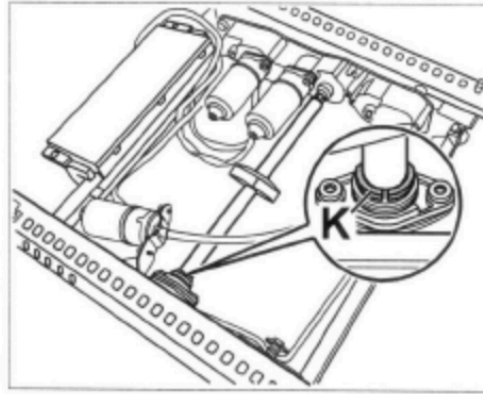

Figure 8
- 9 Check to see whether the **plastic bushing** (⇒ *Figure 8-inset, item K-*) turns along with the shaft when the seat rail is moving.